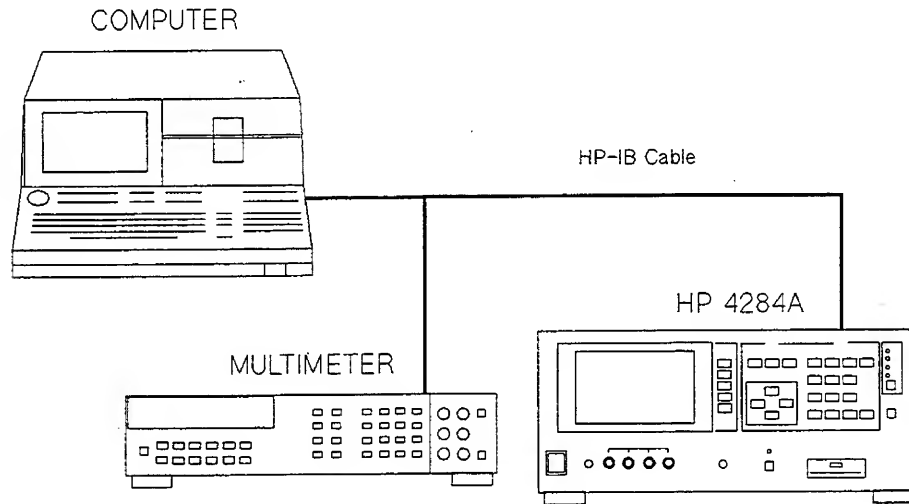

Figure 3-14. Faulty Board Isolation Program Setup
1. Connect the HP-IB cable between the HP-IB connectors on the 4284A's rear panel and on the controller's rear panel, and connect the HP-IB cable between the HP-IB connectors on the 4284A's rear panel and on the HP 3458A's rear panel. Figure 3-14 shows the setup.